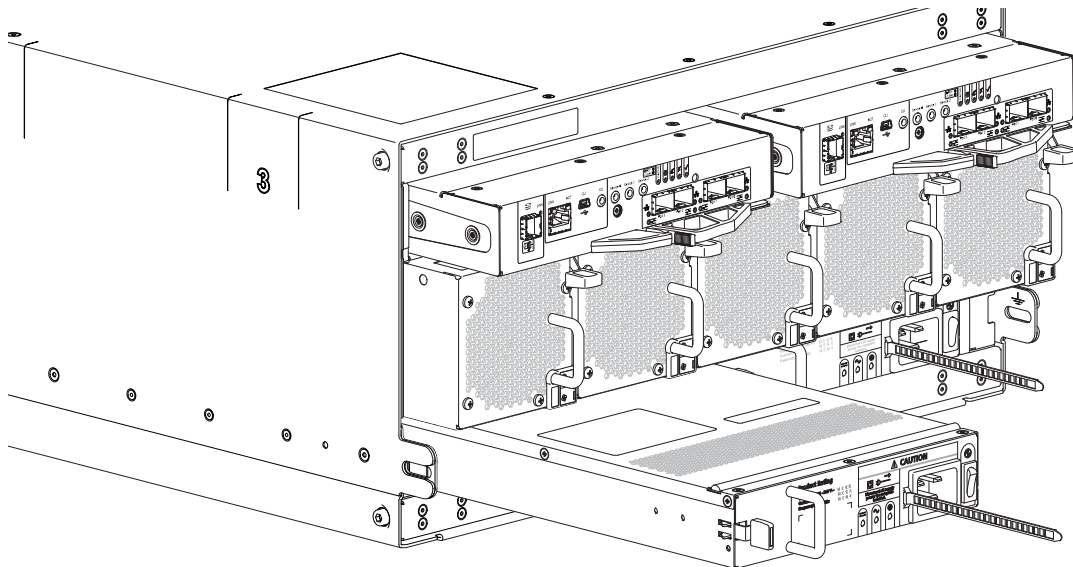

Figure 108 Removing a PSU (2 of 2)
- b. With your other hand, grasp the handle and pull the PSU outward (detail No.2). Supporting the PSU with both hands, remove it from the enclosure. See also Figure 108 \(page 135\).
2. Orient the PSU for insertion into the target slot on the enclosure rear panel, as shown in Figure 108.